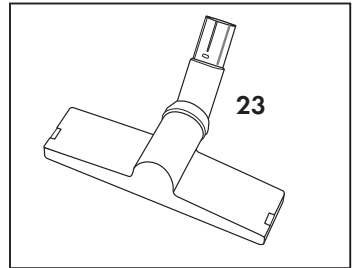

Fig. 11
MULTIPURPOSE BRUSH (23) Fig.11